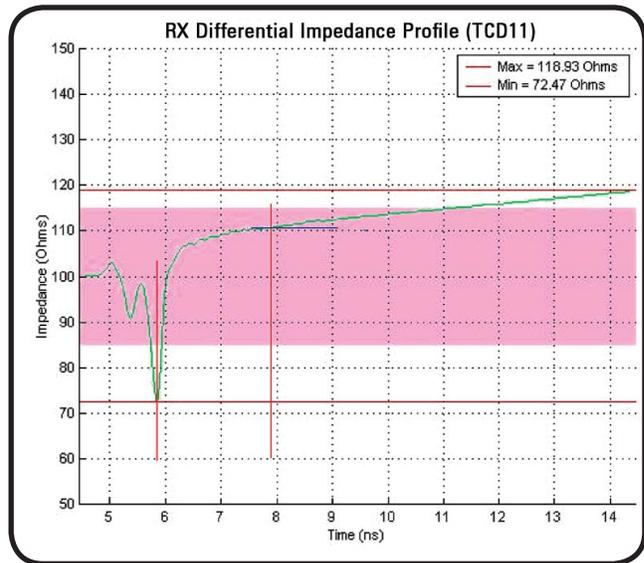

Figure 14. Tx/Rx Impedance
- H. Record the impedance value at the point occurring 2 ns after the last major capacitive dip (see Figure 14).**